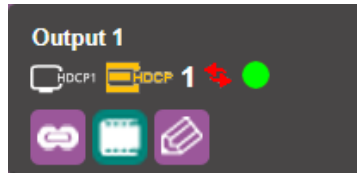

Figure 19: Switching Page – Output Button
3. Click  on an output button (Figure 19).
Similar icons appear (first icon on button) on all output buttons streaming that input signal (Figure 19).